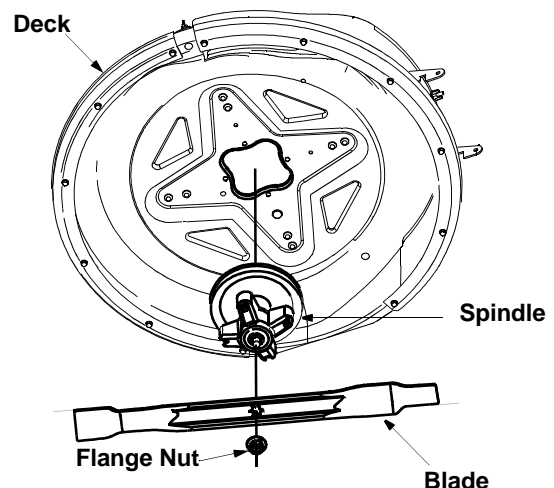

Figure 18
- Remove blade from the spindle. See Figure 18.